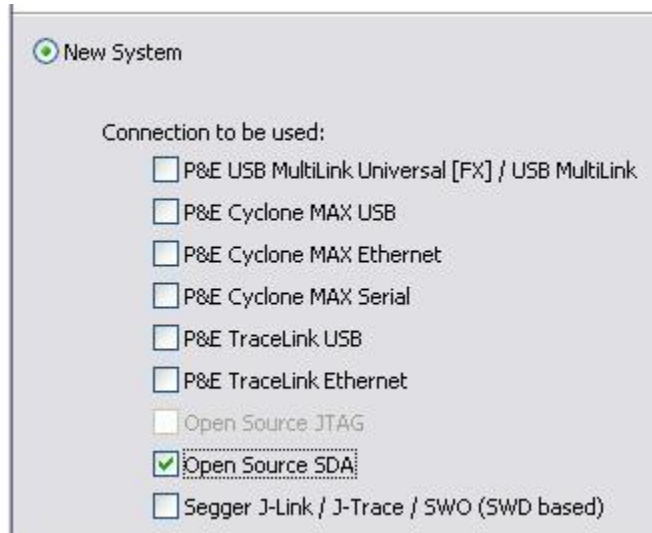

Figure 6. Selecting connection
- The following step allows you to choose the connection. The Freedom – KL25Z board uses the Open source SDA connection and must be selected as indicated. See Figure 6. Click Next > to go on.